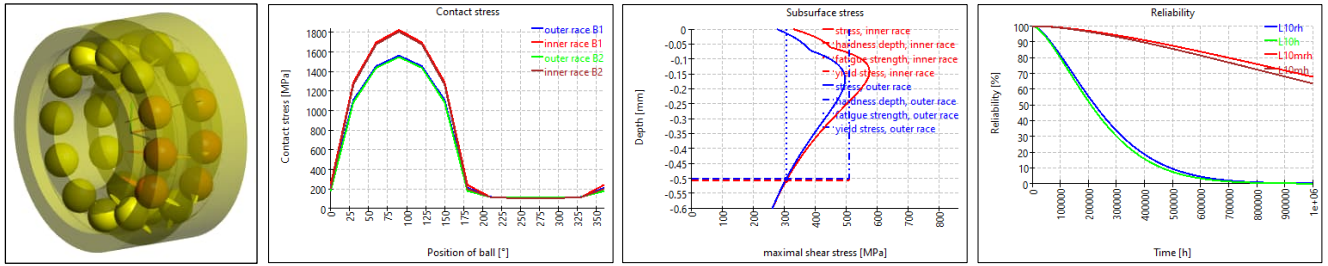

Figure 9
- ➔ Open the graphics for load distribution 3D, Contact Stress, Subsurface stress, and Reliability as shown in Figure 9.